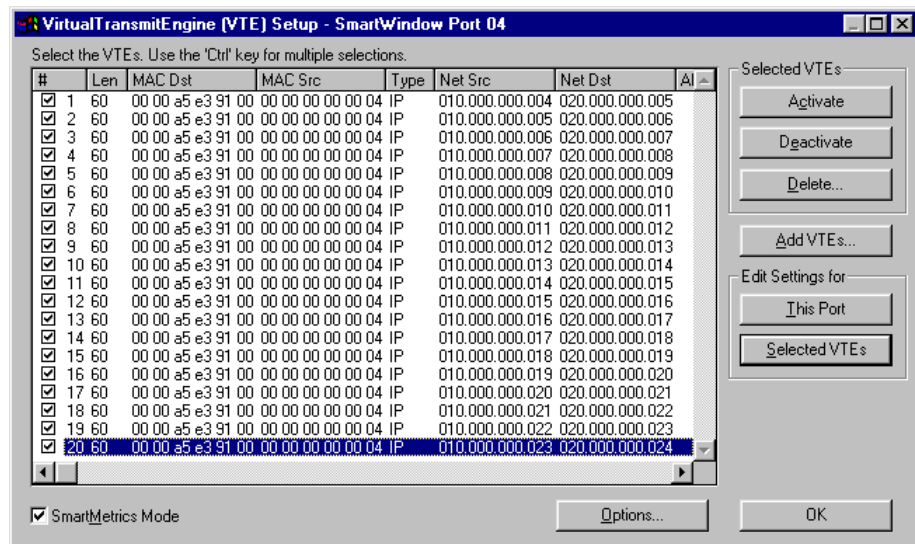

Figure 7-25. Multiple Streams in Transmit Setup Window
- 11 View the 20 streams for port 5 in the **Transmit Setup** window (*Figure 7-25 on page 276*).